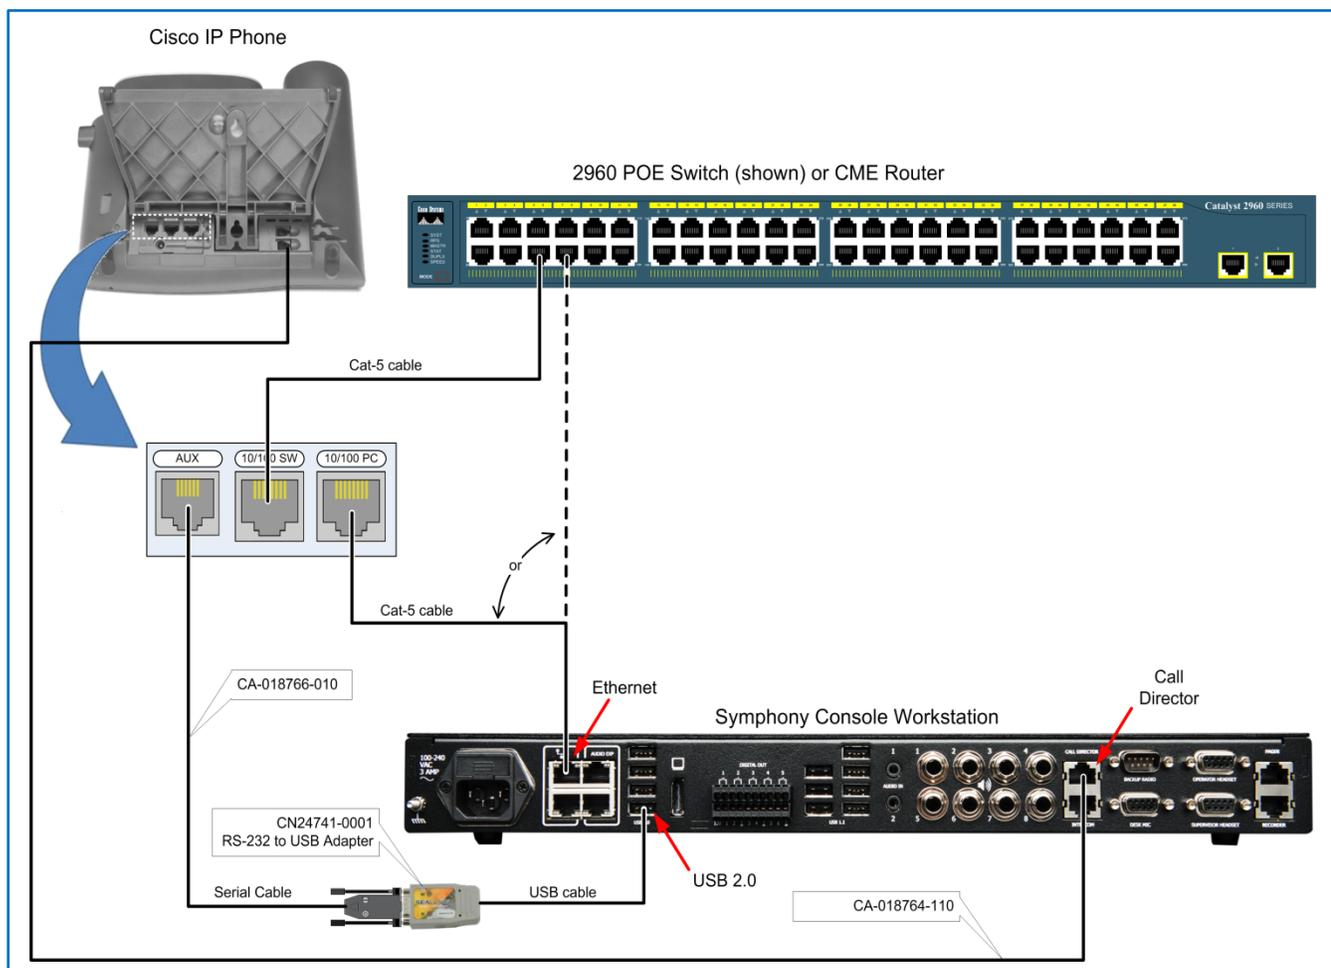

Figure 6-11: Sample Call Director Cabling Diagram
1. Connect an Ethernet cable between the Symphony Dispatch Platform **Call Director** port and the Cisco IP phone **10/100 PC** port. Refer to Figure 6-11.